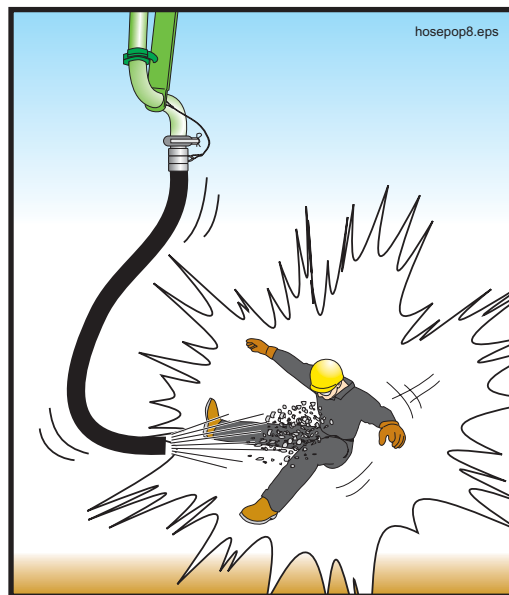

Figure 50
⚠ WARNING Do not let the concrete level in the hopper become low! If air is sucked into the material cylinders, the pump will compress the air. Compressed air always poses a hazard as it is expelled from the hopper or the delivery pipeline (Figure 50). If air is taken into the material cylinders, take the following steps to minimize the hazard:
3. Persons standing at the discharge end or near the delivery line must be warned to move away until all of the air has been purged. Personnel should move a prudent and reasonable distance beyond the end-hose movement area or the point of discharge, and personal protective equipment (PPE) should be worn (Figure 50).
Whenever air has been introduced into the line for any reason, warn everyone to stay away from the discharge until material runs steadily. Personnel should move a prudent and reasonable distance beyond the end-hose movement area or the point of discharge, and personal protective equipment (PPE) should be worn (Figure 50).